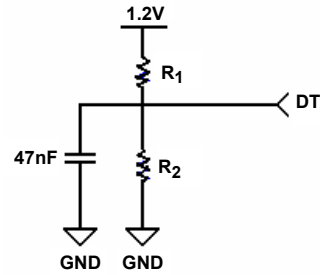
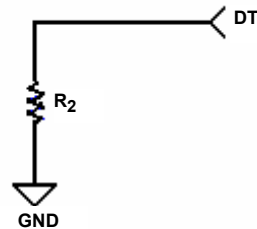

FIGURE 33A.
FIGURE 33B.
The QLX4600-S30 is capable of maintaining periods of line silence on any of its four channels by monitoring each channel for Loss Of Signal (LOS) conditions and subsequently muting the outputs of a respective channel when such a condition is detected. A reference current applied to the Detection Threshold (DT) pin is used to set the LOS threshold of the internal signal detection circuitry. Current control on the DT pin is done via one or two external resistors. Nominally, both a pull-up and pull-down resistor are tied to the DT pin (Figure 33A), but if adequate control of the supply voltage is maintained to within $\pm 3\%$ of 1.2V, then a simple pull-down resistor is adequate (as in Figure 33B). Resistors used should be at least 1/16W, with $\pm 1\%$ precision.
The internal bias point of the DT pin, nominally 1.05V, is used in conjunction with the voltage divider (R_1 and R_2) shown in Figure 33A to set the reference current on the DT pin.
For channels exhibiting more than 25dB of total loss (this includes cable or FR-4 loss) the DT pin should be configured for a reference sink current (coming out of the DT pin) of approximately $2\mu\text{A}$. A typical configuration for a $2\mu\text{A}$ sink current is given in Figure 33C. If the configuration in Figure 33B is utilized, a $525\text{k}\Omega$ resistor would be used.